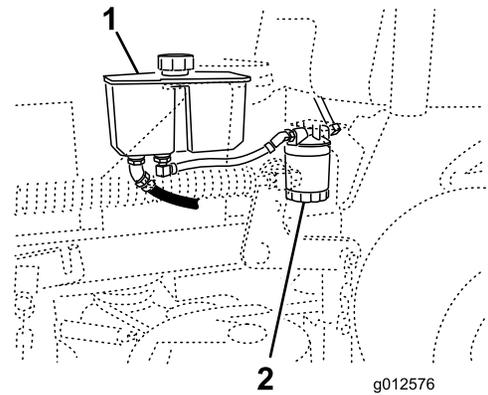

Figure 74
3. Locate the filter and place a drain pan under the filter (Figure 74).